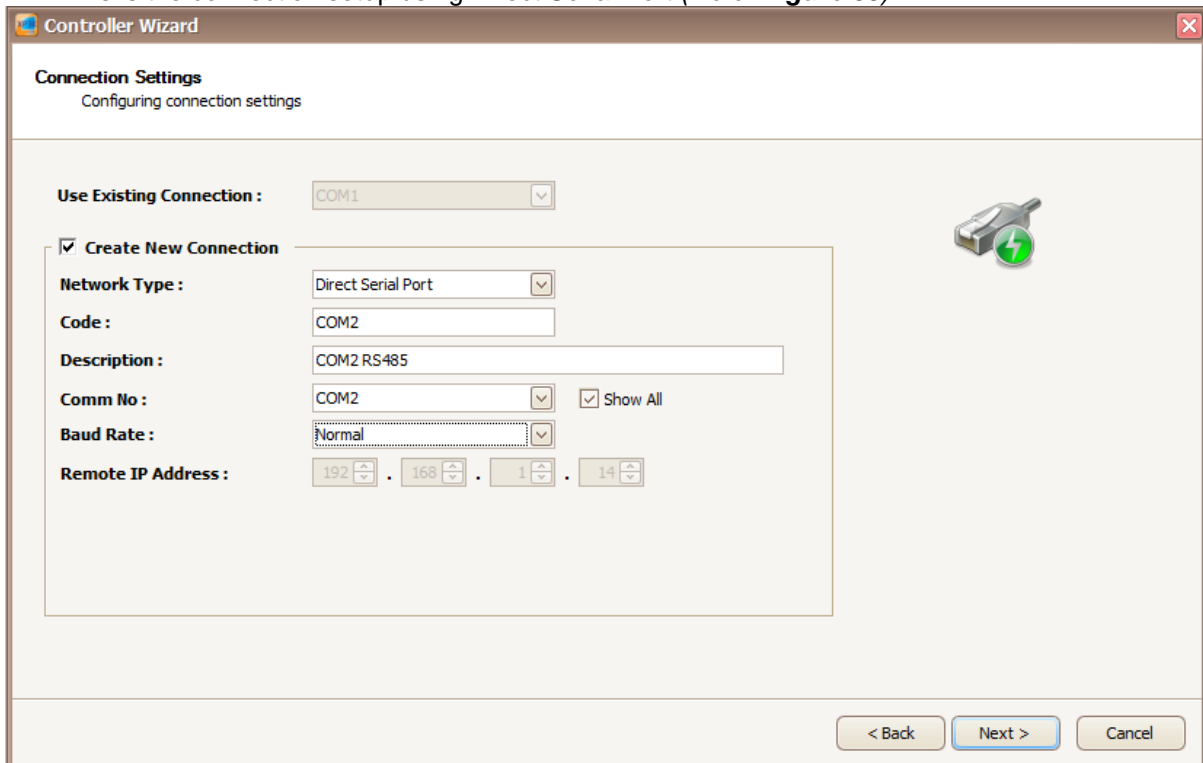

Figure 38 - Connection Settings (Direct Serial Port)
11. This is the connection setup using Direct Serial Port (Refer **Figure 38**).